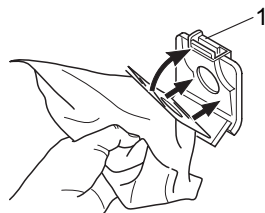

Fig. 21
6. Press the locking clip (Fig. 21/1) back and insert the new dust bag as shown in (Fig. 21).